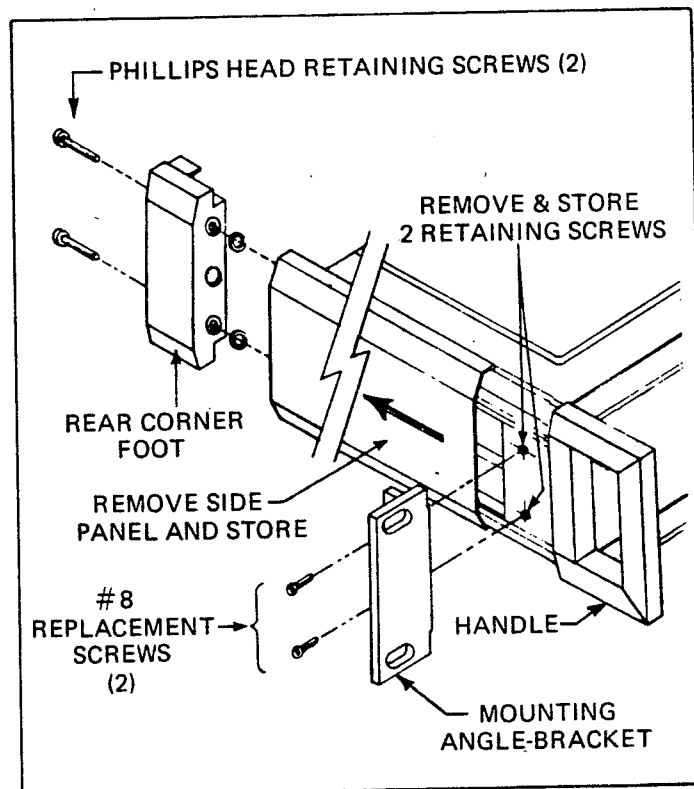

Figure 2.1 - Fixed-mount angle-bracket detail
2.4.2.1 The fixed-mount installation package includes a pair of handle-sub corner inserts for the non-handle installation, a pair of custom mount angle-brackets and 4 flat head 8-32 x 5/16 screws. To install the angle-brackets, refer to Figure 2.1 for an illustrated example then proceed as follows.
2.4.3.2 To install the Alignment Blocks in the channels along each side of the instrument, remove the side panels from the instrument by first removing two corner-feet by extracting the two phillips-head retaining screws. This detail is shown in Figures 2.1 and 2.2.